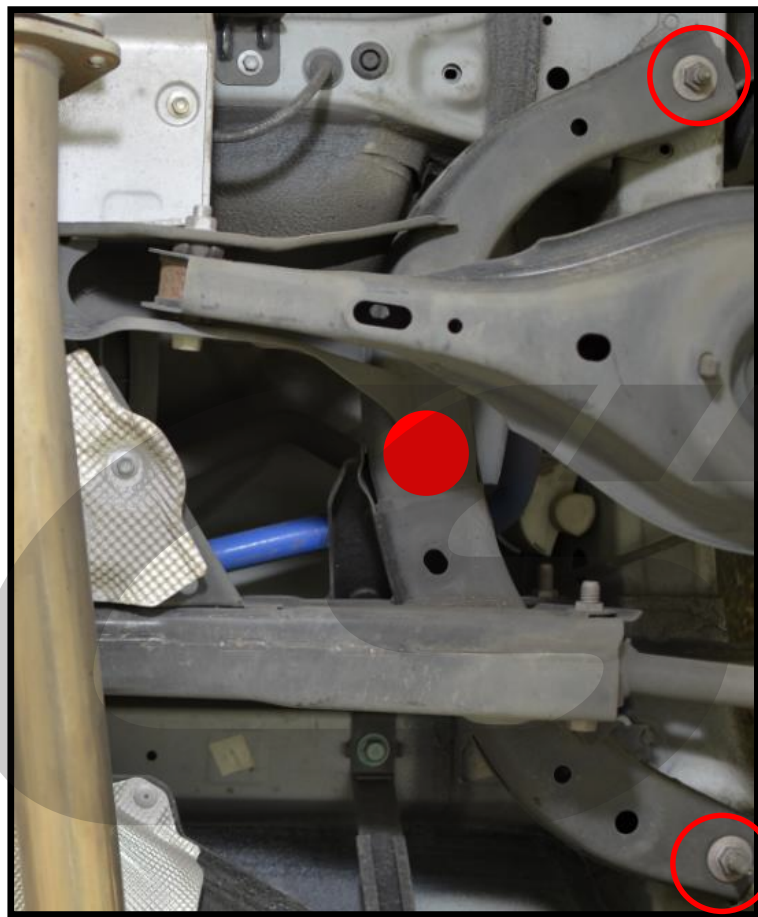

Figure 2c
- b) Starting with one side of the sub-frame (passenger side shown), support the sub-frame with a sturdy block and hydraulic floor jack in the location of the red dot. *Shown in Figure 2c.*
- c) Remove the two passenger side 17mm nuts that hold the sub-frame. *Shown with the red circle in Figure 2c.*